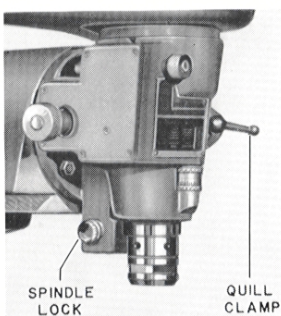

Figure 22A
**Clamping and Spindle Lock** — The device shown in Figure 22A is for clamping the quill. To lock or clamp the quill, turn the clamping device in a clockwise direction until tight.
The spindle lock shown in Figure 22A is designed to hold the spindle stationary when changing cutters. To lock the spindle, proceed in the following manner: